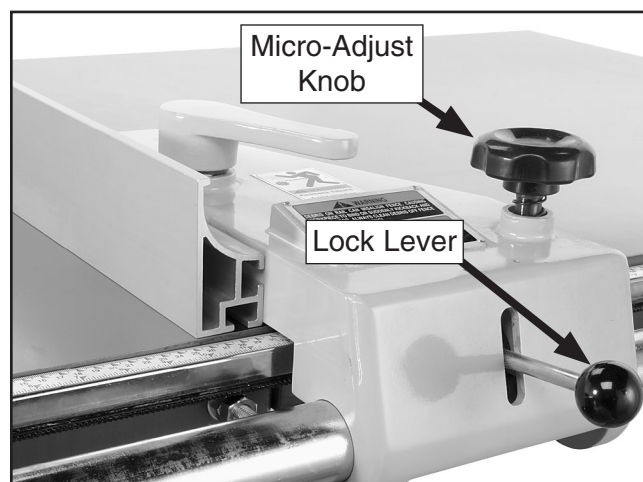

Figure 56. Rip fence micro-adjusting controls.
6. Push down on the rip fence micro-adjust knob (**Figure 56**) and turn it to precisely set the width-of-cut.